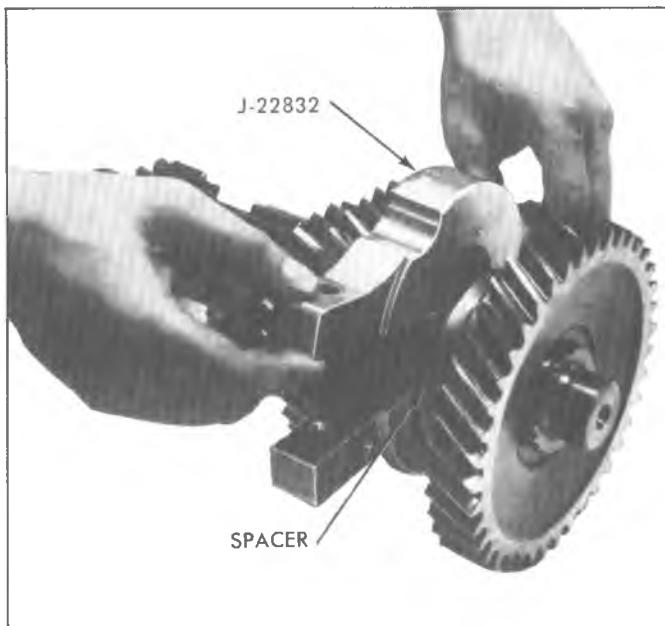

Fig. 20Q -Positioning Tool J-22832 On Countershaft
2. Install Tool J-22832 or suitable press plates on countershaft, open side to spacer, (fig. 20Q); support assembly in an arbor press and press countershaft out of clutch countergear assembly.